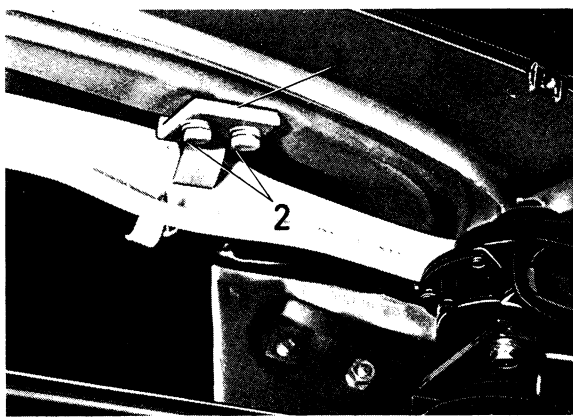

Fig. 8-6. Hood hinges
3. Remove the hood by unscrewing the hood hinge bolts (2, Fig. 8-6) from the hood. In order to get at the bolts for the right-hand hinge, the outer part of the air cleaner must be taken off.
When the hood is fitted, line it up in the opening so that there is the same slit all round the hood before tightening the hinge bolts. The holes in the hinges are larger than the diameter of the bolts so that it is possible to adjust the location of the hood both laterally and longitudinally. The hood elevation can be adjusted at the front end by placing shims (1, Fig. 8-6) between hood and hinges, and at the rear end with shims placed between